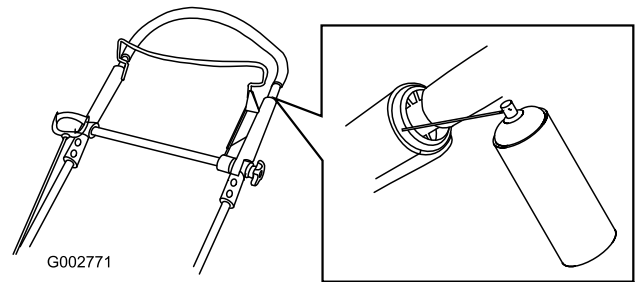

Figure 44
1. Spray the outer plastic end of the inner handle (Figure 44).